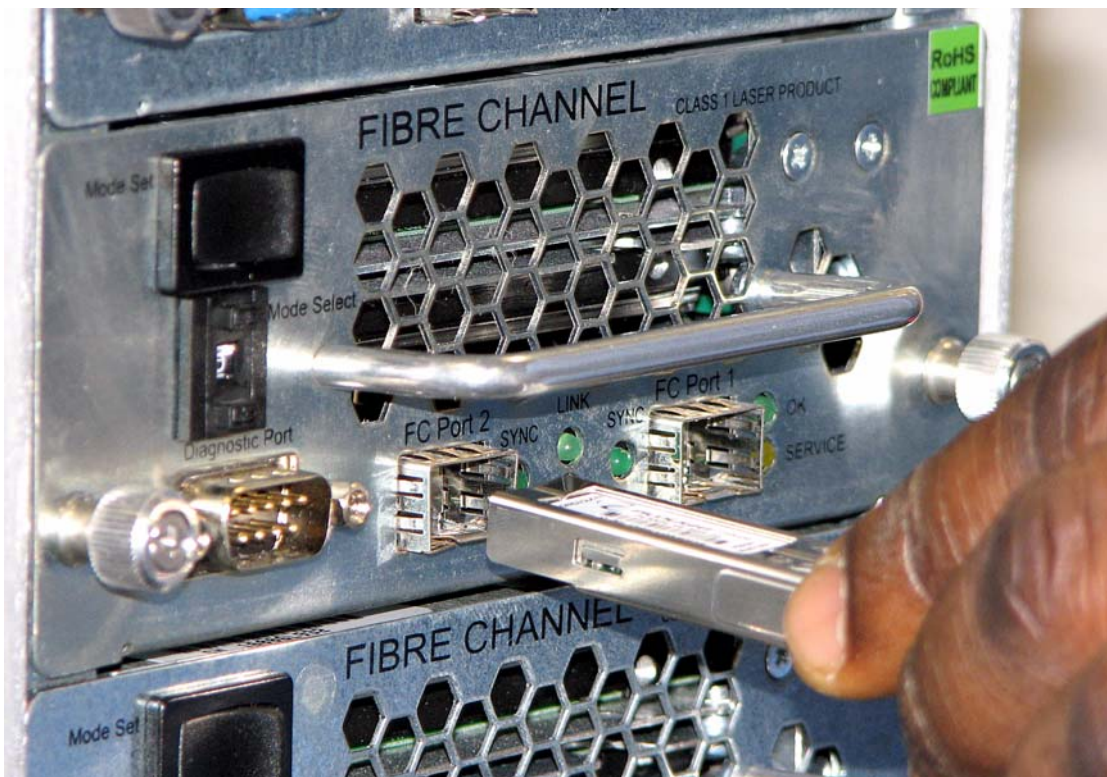

FIGURE 4-4. The SFP at FC Port 2.
2. With the visible part of the copper circuit board connector facing down, insert the SFP into FC Port 2 or FC Port 1. Gently push the SFP in until it clicks. See Figure 4-4.